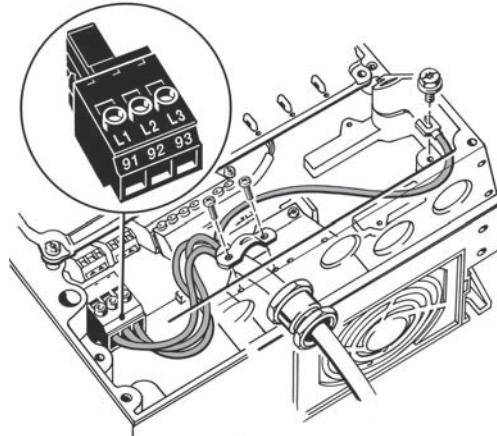

Fig. 12 Mains connection, A5
1. Connect the ground conductor to terminal 95 (PE). See fig. 12.